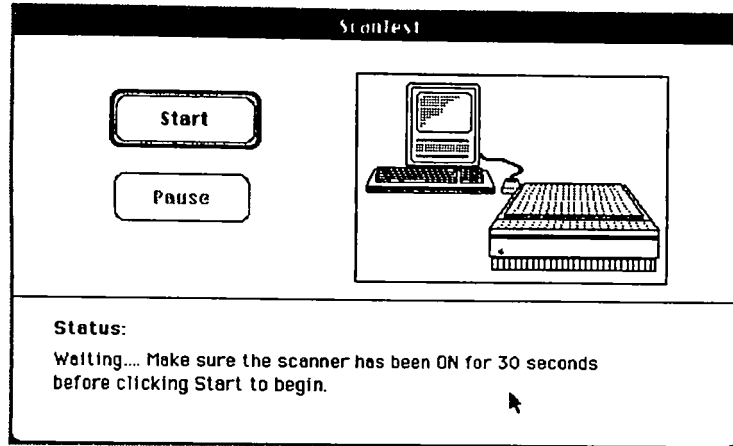

FIGURE 4
4. When you have read the screen and made sure these conditions are correct, click **OK**. The status screen will display (Figure 4).